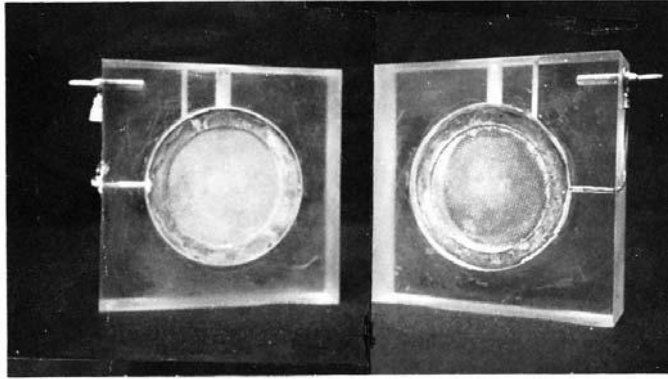

FIG. 3 Applied Voltage Cell-Face View
7.5 Applied Voltage Cell (see Fig. 1 and Fig. 3)—Two symmetric poly (methyl methacrylate) chambers, each contain-ing electrically conductive mesh and external connectors. One design in common use is shown in Fig. 1 and Fig. 3. However, other designs are acceptable, provided that overall dimensions (including dimensions of the fluid reservoir) are the same as shown in Fig. 1 and width of the screen and shims are as shown.